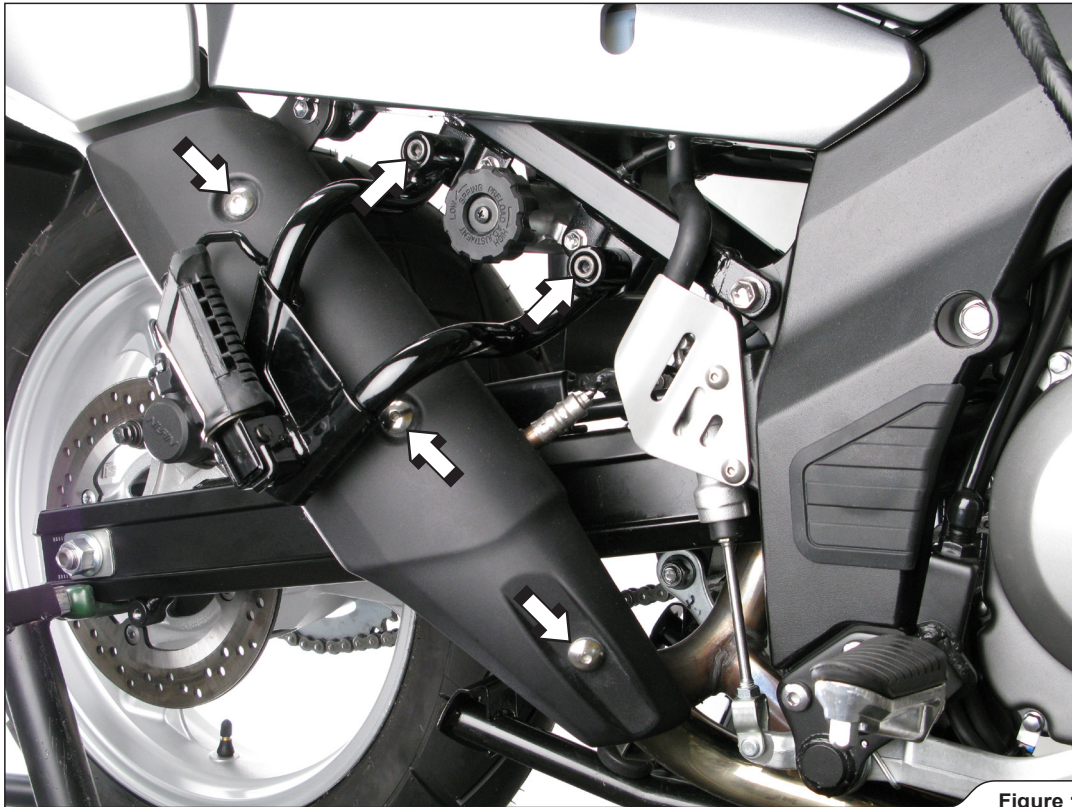

Figure 1
2. Unscrew the marked bolts and remove the right passenger's footrest and muffler's heat shield off the motorcycle (Figure 1).